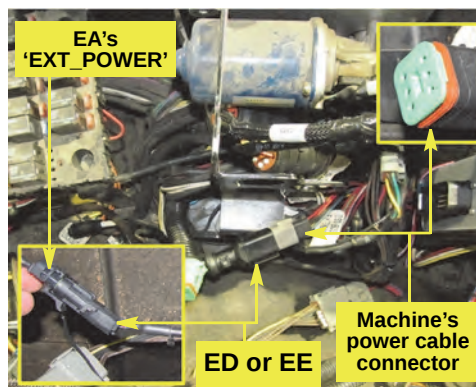

Figure 3c: Power connections
- c. Locate the machine's power cable connector (from beneath the ECU installation—Figure 3c). Connect power cable **ED** (MAX) or **EE** (STX) to the machine's connector (Figure 3c top/right inset).